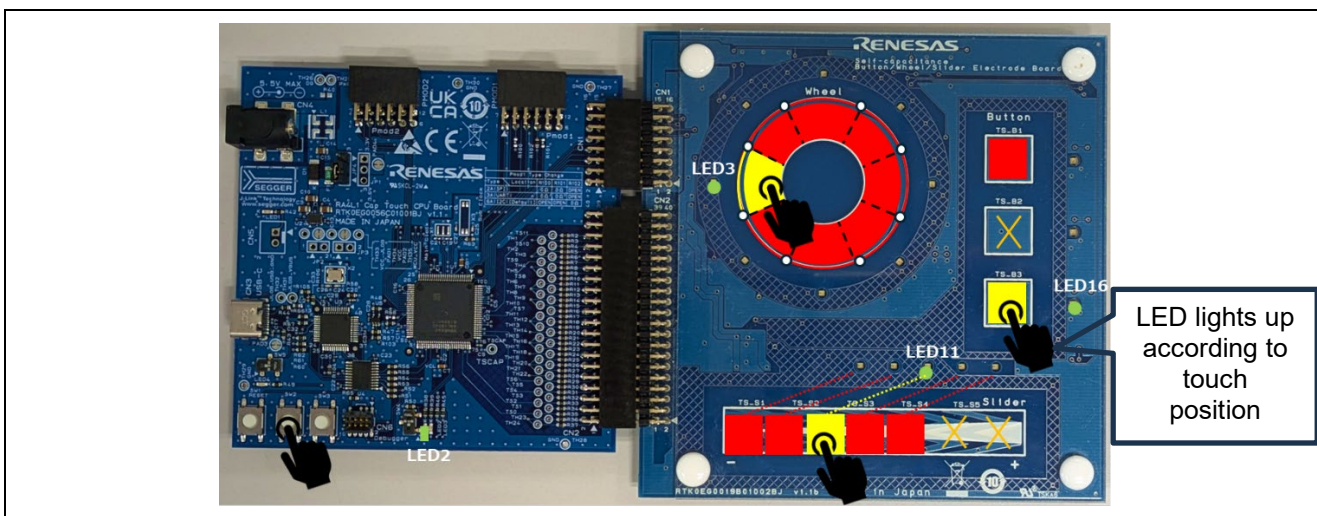

Figure 1-2 LED Control in Conjunction with Capacitive Touch Buttons, Sliders, and Wheel Movements
2. The LEDs are controlled in conjunction with the operation of the two buttons (TS-B1, TS-B3), wheel, and slider (three TS configurations: TS-S1, TS-S2, TS-S3) on the touch electrode board. (See Figure 1-2).
3. LED control is performed in conjunction with the push button on CPU board. Pressing SW2, LED 2 lights up. Pressing SW3, LED3 lights up. (See Figure 1-2)